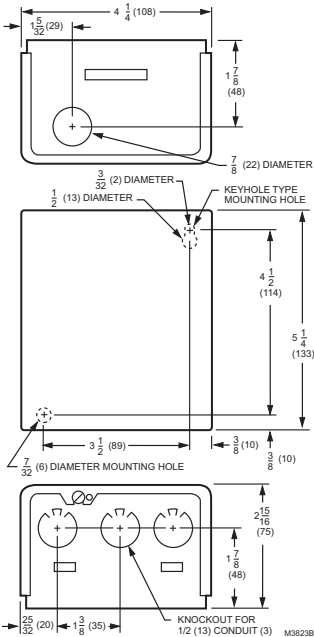

Fig. 1. R8845U dimensions in in. (mm).
See Fig. 1.
- 1. Position the relay and mark the mounting holes. See Fig. 1.